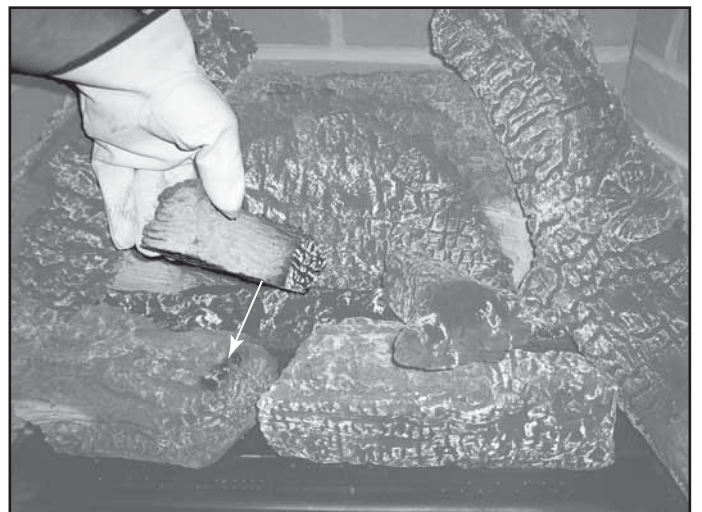

Figure 15.13 Position Log #4061-177
- Place this log in the white-painted groove of ember bed and front log as shown in Figure 15.13.